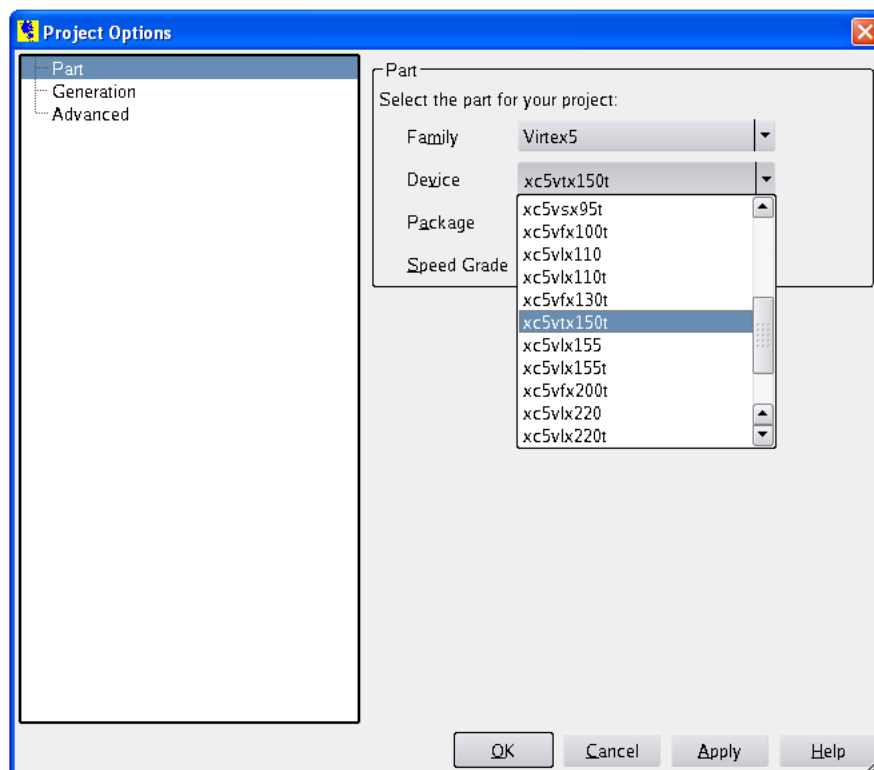

Figure 3-3: Target Architecture Setting
4. Select an appropriate package from the Package list. This example uses the XC5VTX150T device (see Figure 3-3).